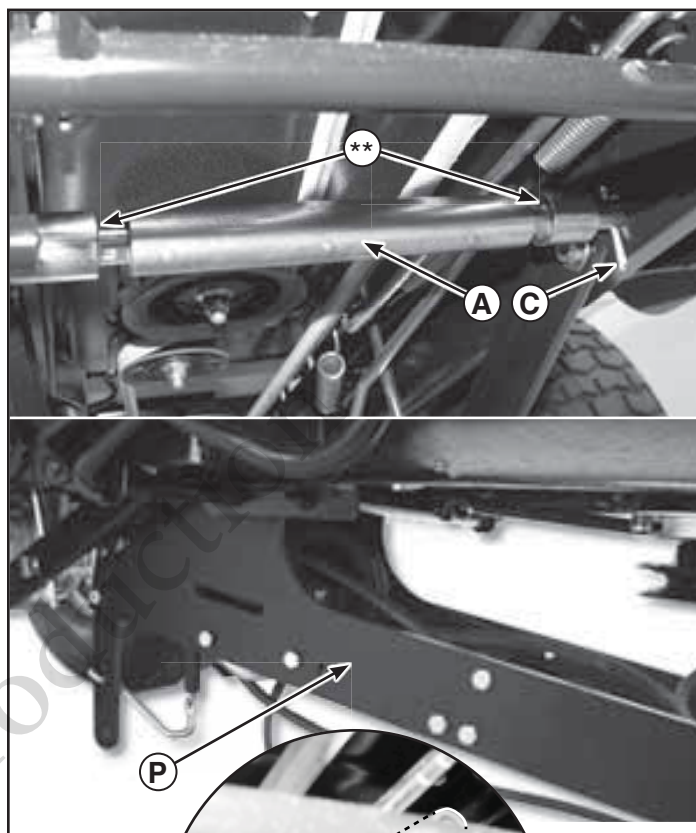

Figure 7
- On underside of tractor frame, locate 11/16" holes approximately 14" forward from rear tire. Insert hitch support shaft (A, Figure 7). Secure with the cotter pin (C) on inside of frame and slightly bend longest leg up.
- Slide hitch (P, Figure 7) under tractor and lift to slide hitch mounting arms (*) over hitch support shaft slots(**).